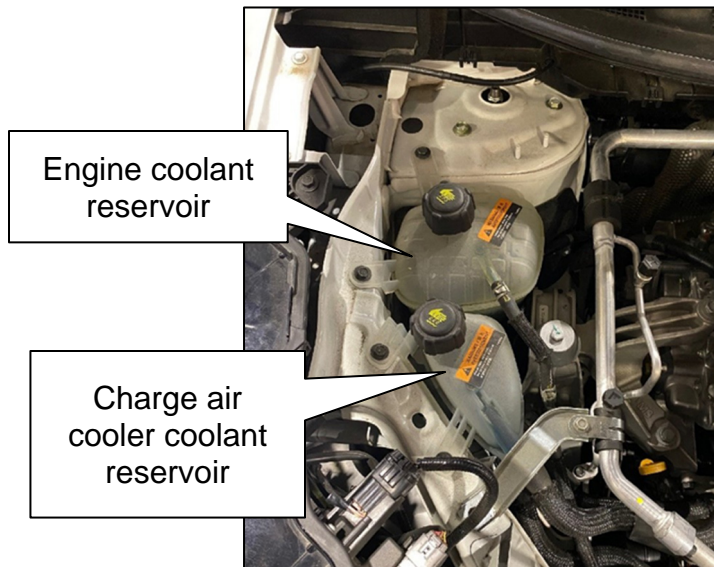

Figure 2
IMPORTANT: If the charge air cooler coolant reservoir (Figure 2 on page 2) is not filled properly per details in this bulletin, spark plug and/or engine damage may occur.
- The engine coolant system and charge air cooler coolant system are two (2) separate systems, and the coolant reservoirs are separate for each (Figure 2).